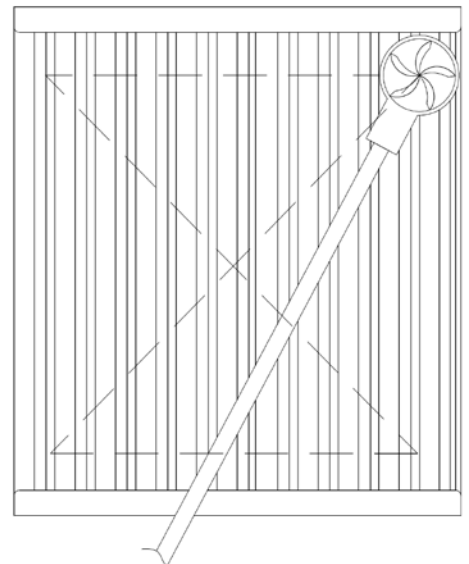

Figure 4-2-4
9. Using the 16 second averaging feature on the meter, slide the sensing head in a “X” pattern as shown on Figure 4-2-4, slowly, at a rate that would last roughly 16 seconds. If you reach the end of the “X” pattern before the 16 second interval has elapsed, continue moving the sensing head back the other direction (without removing it) until the 16 second time interval has expired.